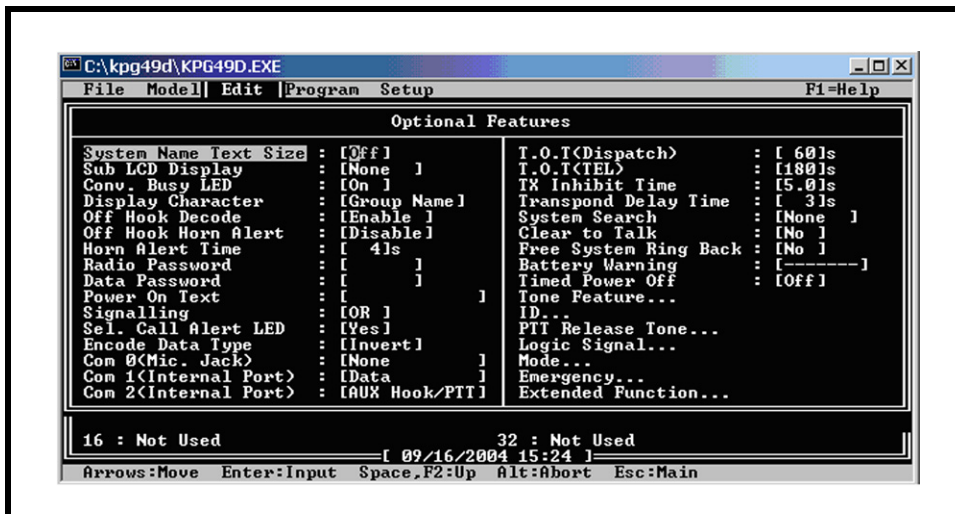

FIGURE 6. Program Com 1 for DATA
- > Program **Com 1** for DATA and **Com 2** for AUX Hook/PTT. See Figure 6.